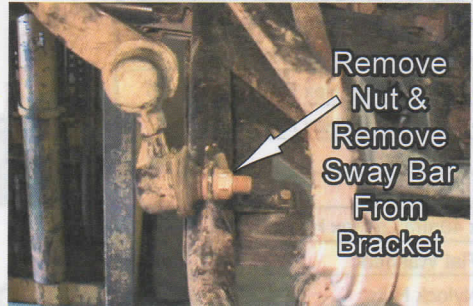

Fig.5
- Remove the Sway Bar from the Lower A-arms on both sides by removing the Nut and tapping it out. This will allow the arms to lower which is needed for this installation. See Fig.5.